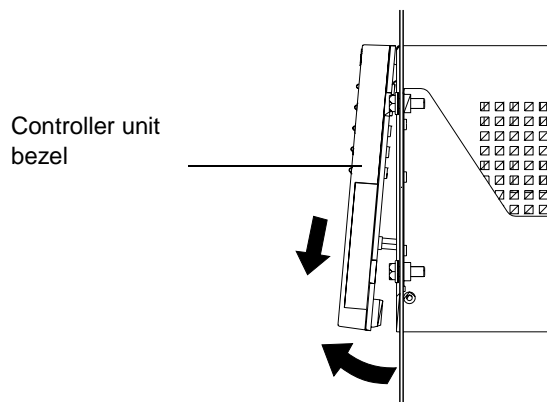

Figure 7. Removing the controller unit bezel
To gain access to the CRUs, cables, indicator lights, and switches inside the controller unit, you must remove the bezel. Figure 7 shows how to remove the bezel.
- 1 Carefully pull out the bottom of the bezel to release the pins; then slide down the bezel, as shown in Figure 7.